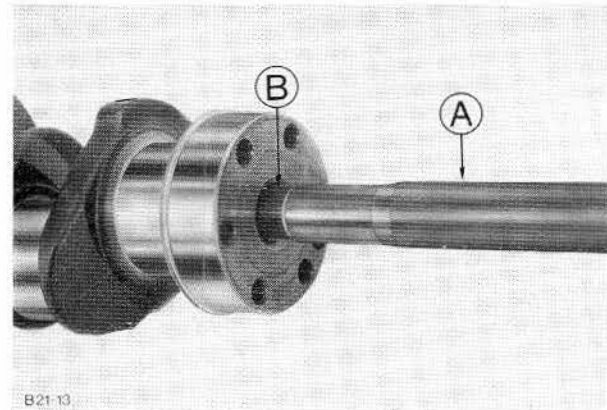

Fig. 43. Press input shaft spigot bearing into crankshaft.
35. Insert a new input shaft spigot bearing into crankshaft using Special Tool G2-7600-B/P-7137, Fig. 43. Press on crankshaft gear.